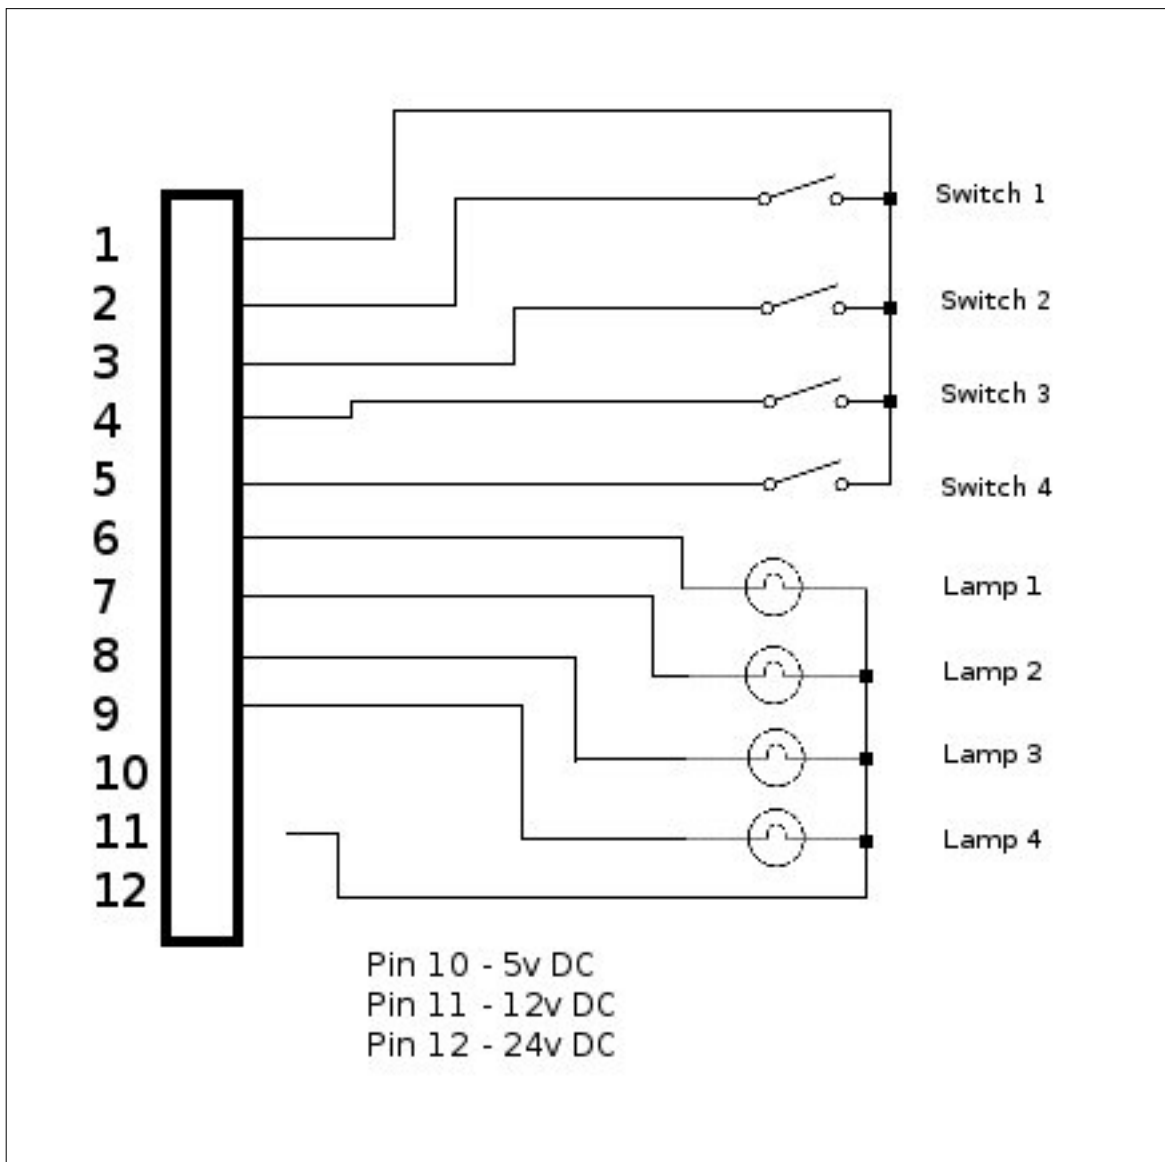

Figure 35
- The *1-4 Button/Lamp interface port (J13)* is used to setup four lighted push buttons (Figure 35)
- The *5-8 Button/Lamp interface port (J14)* is used to setup up to eight lighted push buttons (Figure 35)